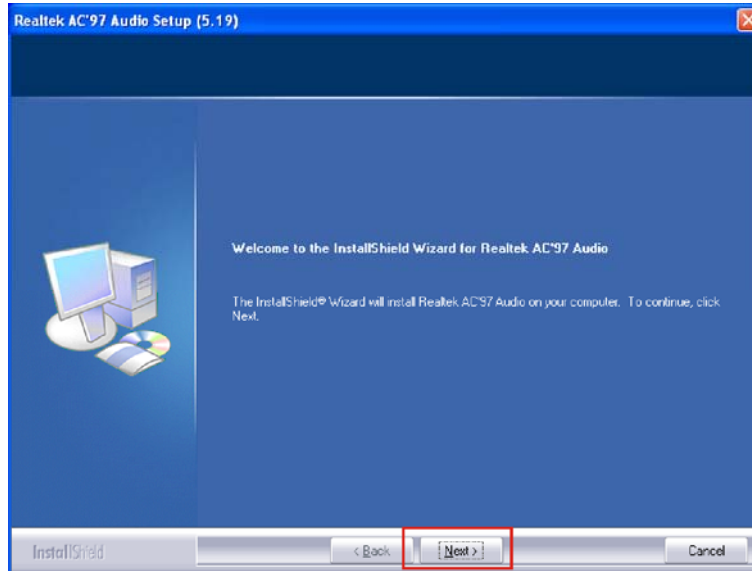

Figure 6-22: AC'97 Driver Installation Welcome Screen
Step 5: The AC'97 Driver Installation screen in Figure 6-22 appears.